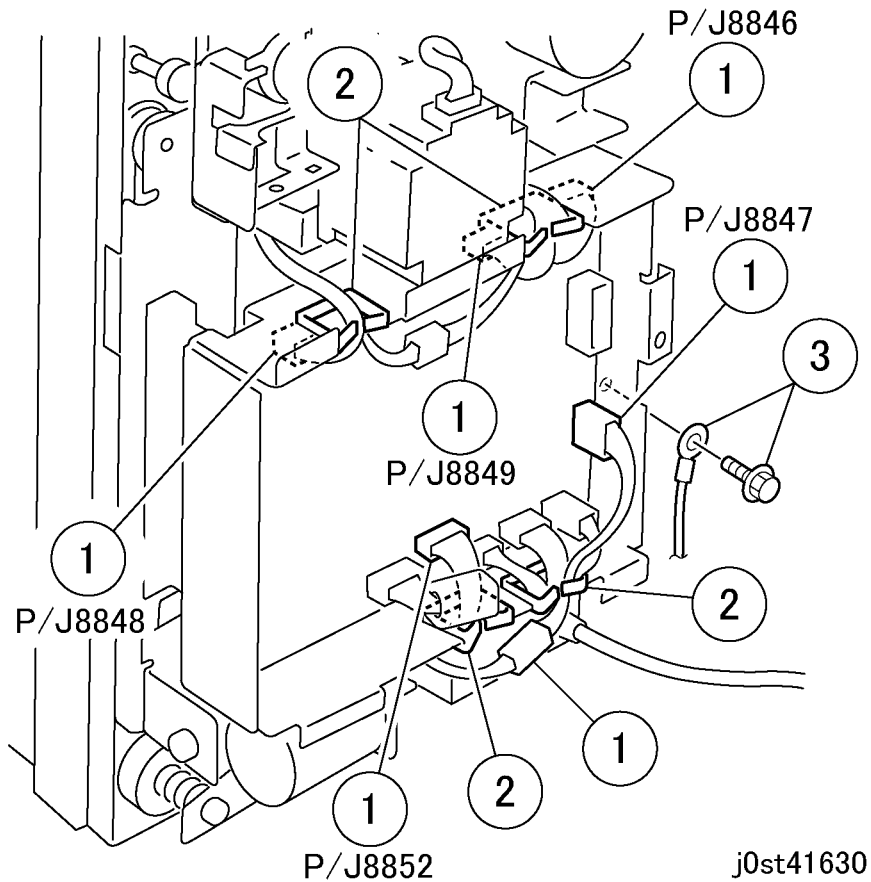

Figure 1 Disconnecting the connectors
2. Disconnect the connectors. (Figure 1)